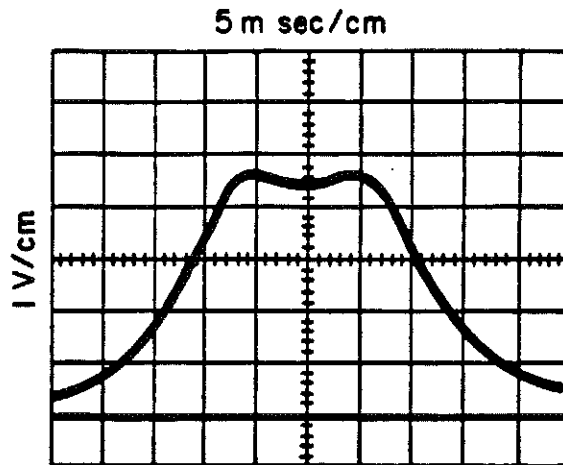

Figure 4-5. 455 kHz Amplifier/AM Detector Response Alignment, Typical Response
8. Adjust A4A7L2 and A4A7L3 for an Oscilloscope waveform which has maximum amplitude and is symmetrical about the marker. See Figure 4-5 for a typical waveform.